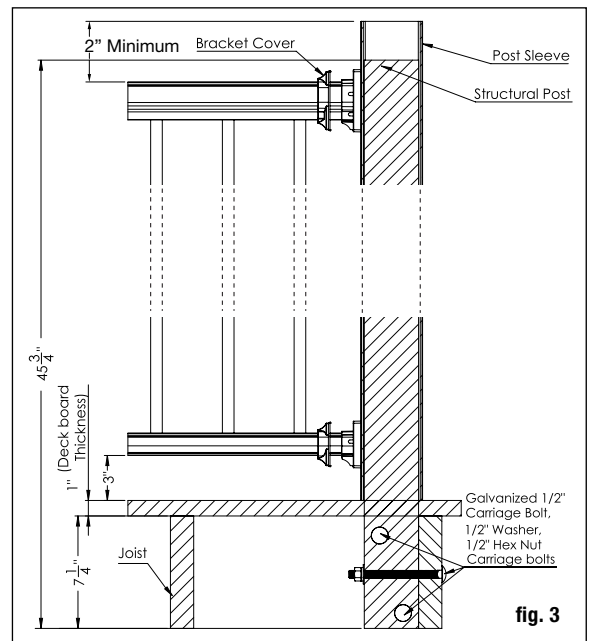

fig. 3
**Step 2** Install railing posts prior to installing deck boards. 4 x 4 Cedar or pressure treated pine railing posts or structural post mounts (item #215036, sold separately) provide the strength for the railing. Note: structural post mounts should be used for installation on concrete. The length of each post is determined by the total of the joist width (typically 7-1/4") + decking thickness (1") + railing height (36") + spacing for post cap (2") = 46-1/4". **Important: Do not notch the 4x4 railing posts. Notching will reduce the strength of the post and could result in railing collapse or failure (fig. 3).**
**Step 3** Position, plumb with a level, and clamp the railing post on the interior face of the joist. Plumb again. The 4x4 railing post should be bolted to the inside of the joist using two 1/2" galvanized carriage bolts, washers and nuts. Corner posts use a third carriage bolt, washers and nuts inserted through the adjacent joist (fig. 3).
**Step 5** Trim 4x4 post sleeves to length. Post sleeves should be a minimum of 2" longer than the railing height (fig. 3). Example: For a 36" high railing, trim post sleeve to a minimum of 38", can be left longer if desired.
**Important: Do not notch the 4x4 railing posts. Notching will reduce the strength of the post and could result in railing collapse or failure (fig. 3).**